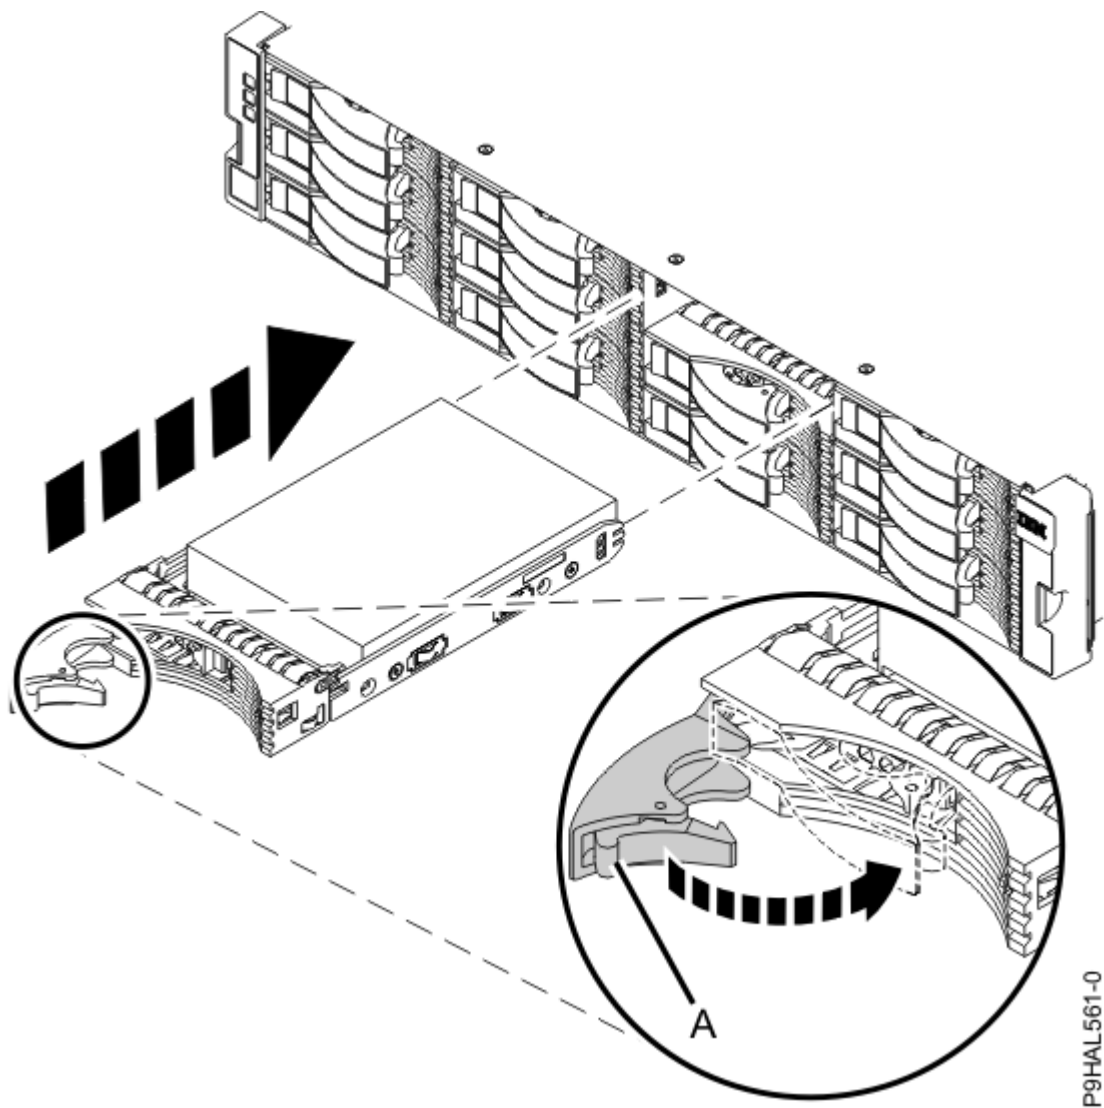
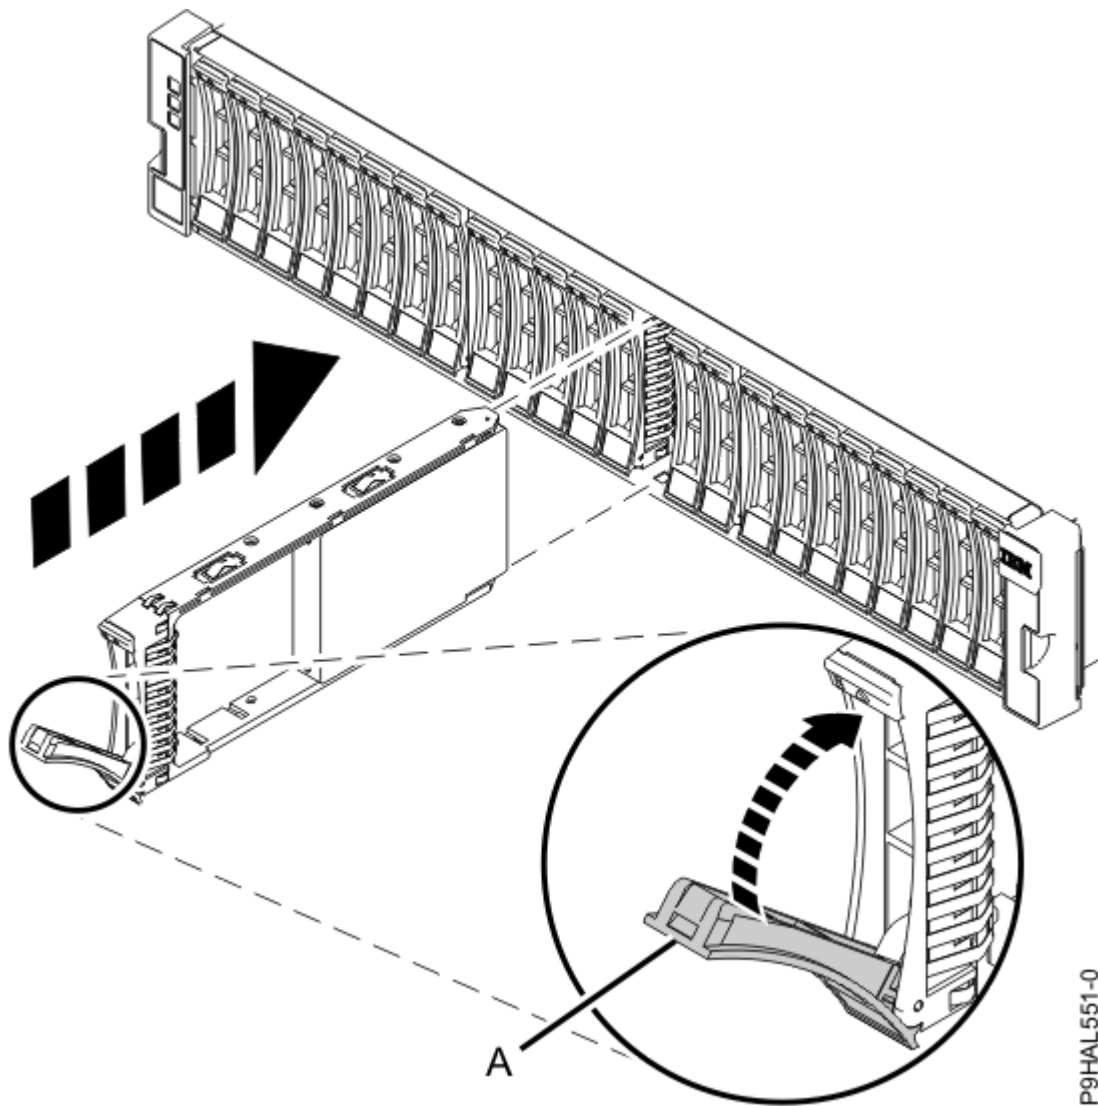

Figure 10: Installing a drive in the ESLL storage enclosure
Figure 11: Installing a drive in the ESLS storage enclosure
3. With the handle in the unlocked position, support the bottom of the drive as you align it with the guide rails in the enclosure. See Figure 10 on page 12 or Figure 11 on page 13.